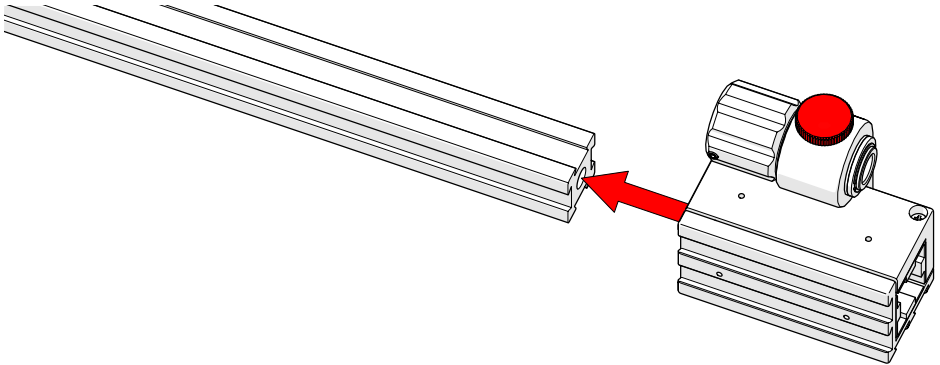

Fig. 225 - Place slider on frame bar and loosen slider lock knob
1. Ease the slider onto the frame bar and push it into position (*Fig. 225*). The slider's friction fit requires an appropriate amount of force to position the slider.
2. Loosen the slider's lock knob (*Fig. 225 - note red highlight*).